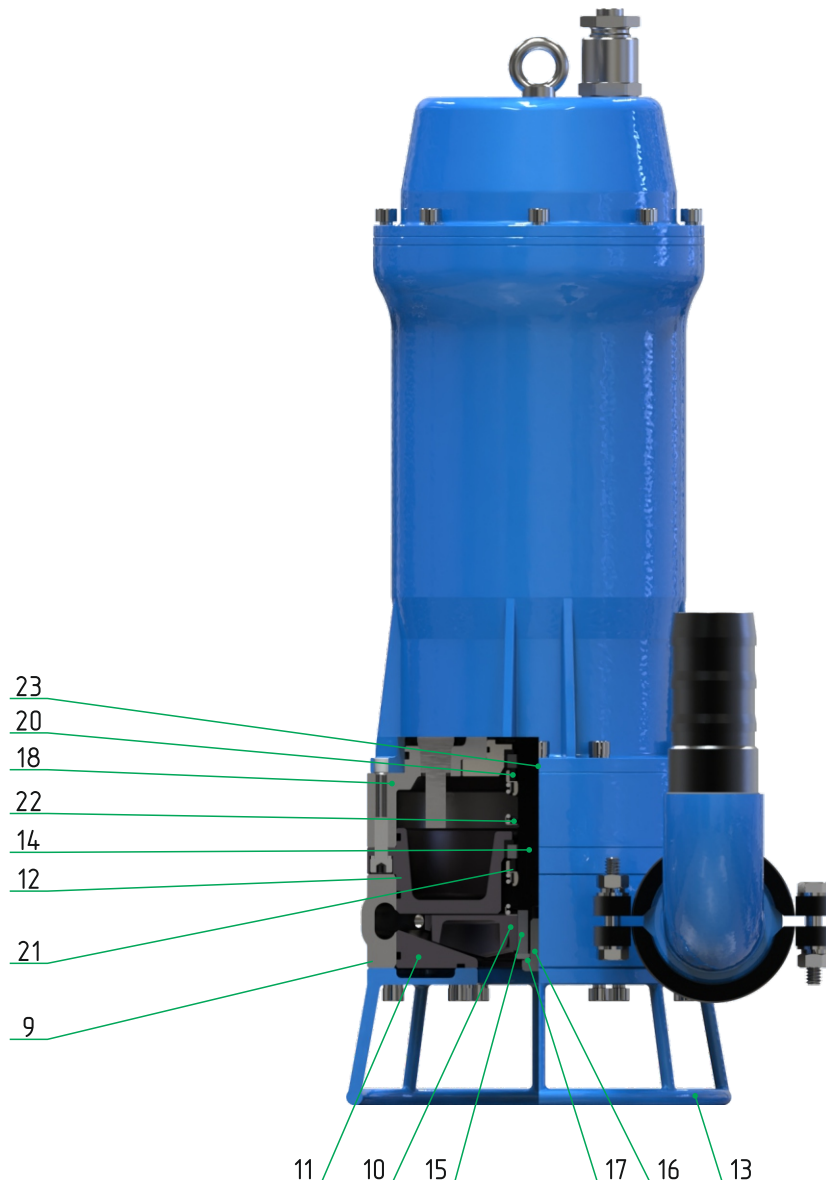

Figure 4 - Pumping station SN-R1-03. Structure.
The centrifugal pump NC-76R1-03 (fig. 4) consists of a volute (pos.9), in which there is an impeller (pos.10) and a wear disk (pos.11). A body (pos.12) and a cover with a diffuser (pos.13) are attached to the volute on both sides. The impeller is mounted on the motor shaft (pos.14) through the key (pos.15) and fixed with a bolt (pos.16) using a washer (pos.17). The adapter (pos.18) contains a sealing assembly.